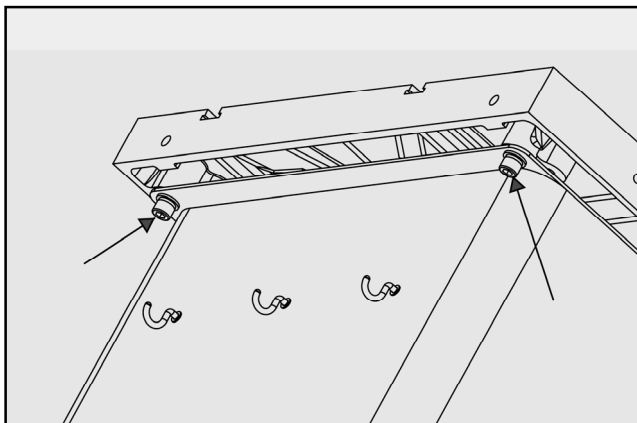

Fig. 24
2. If an adjustment is necessary, loosen the screws identified in **Fig. 24** which mount the table to the cabinet. Make the needed adjustment until both measurements are equal or less than 0.2 mm. and retighten the screws.